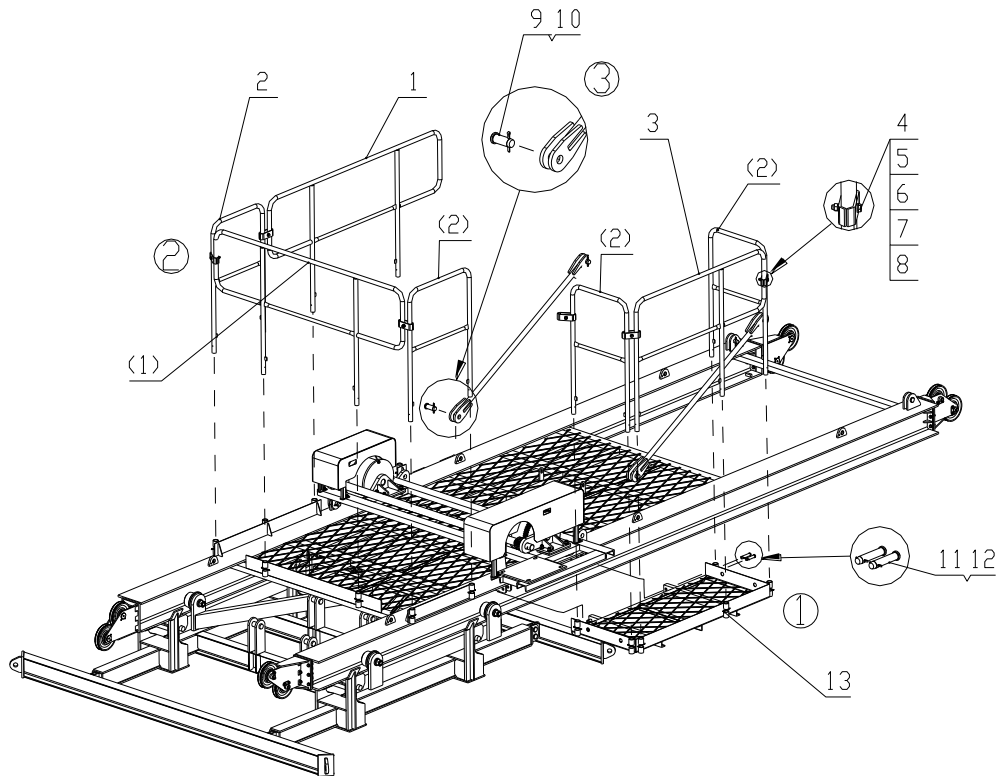

Fig. 4-16 Assembling the mounting device
Install the mechanism platform to the mounting beam, and install the railings and splint railings, then connect the railings and mounting beam together, as order ①~③ in Fig. 4-16.